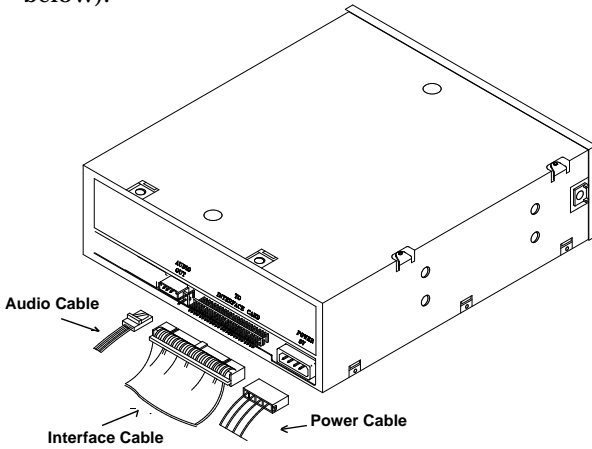

Figure: 1.2: CD-ROM Back Panel
4. Connect the 40-pin drive interface cable at the rear of the CD-ROM drive (see Figure 1.2). Make sure that Pin 1 on the cable (colored stripe) matches up with Pin 1 on the CD-ROM drive connector. **NOTE:** Pin 1 is close to the four-pin power connector.